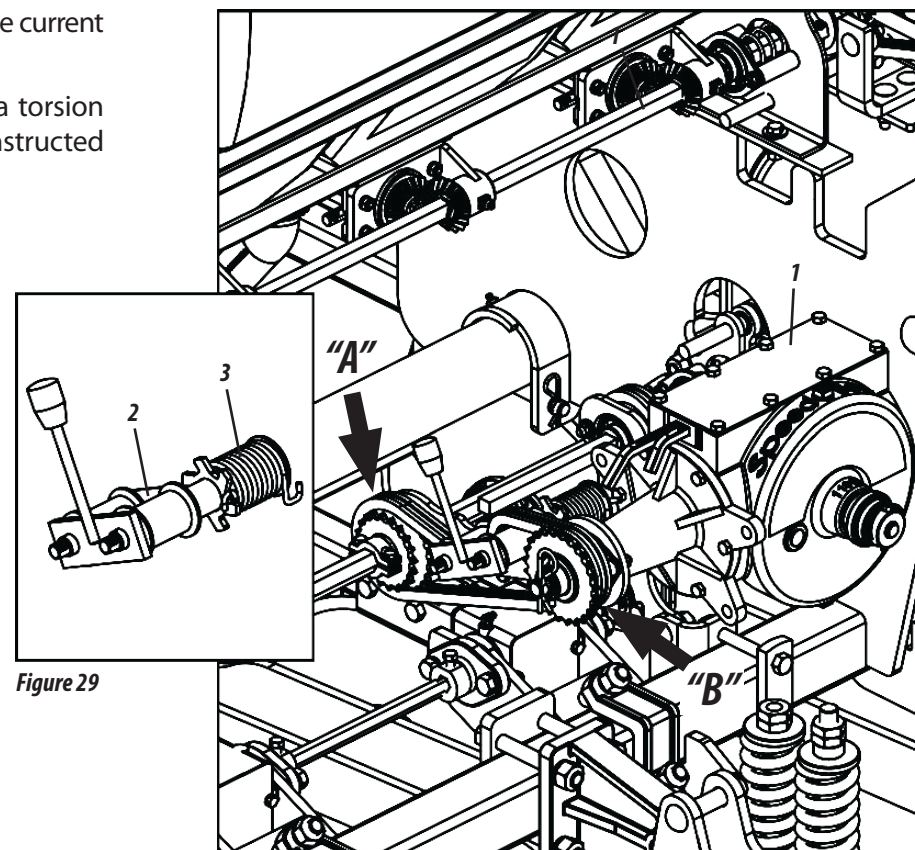

Figure 29
ADJUSTMENT FOR DISTRIBUTION OF SEEDS (FIGURE 29)
- 1- Seed adjustment is done through the Speed Box (1). To obtain more ADJUSTMENTS, invert the current in the motor gears "A" and moved "B", as shown in Figure 29.